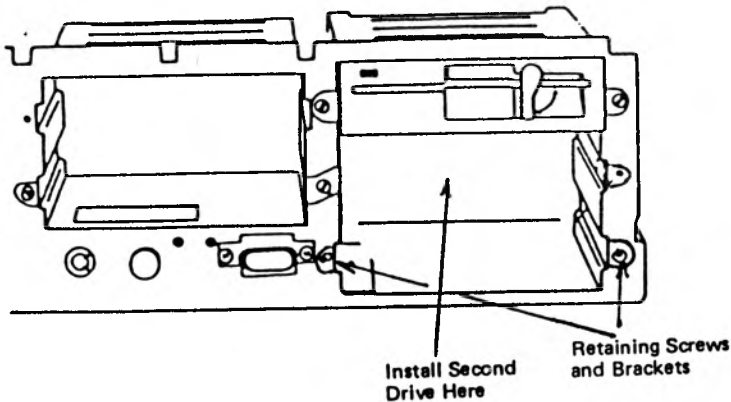

Figure 10
If the hard disk drive is to be installed into a version of the PC that already contains a hard disk drive, then the location for the new drive is as shown in Figure 10. To do this, use the following procedure:
1. Remove the two retaining screws and brackets as shown in Figure 10.